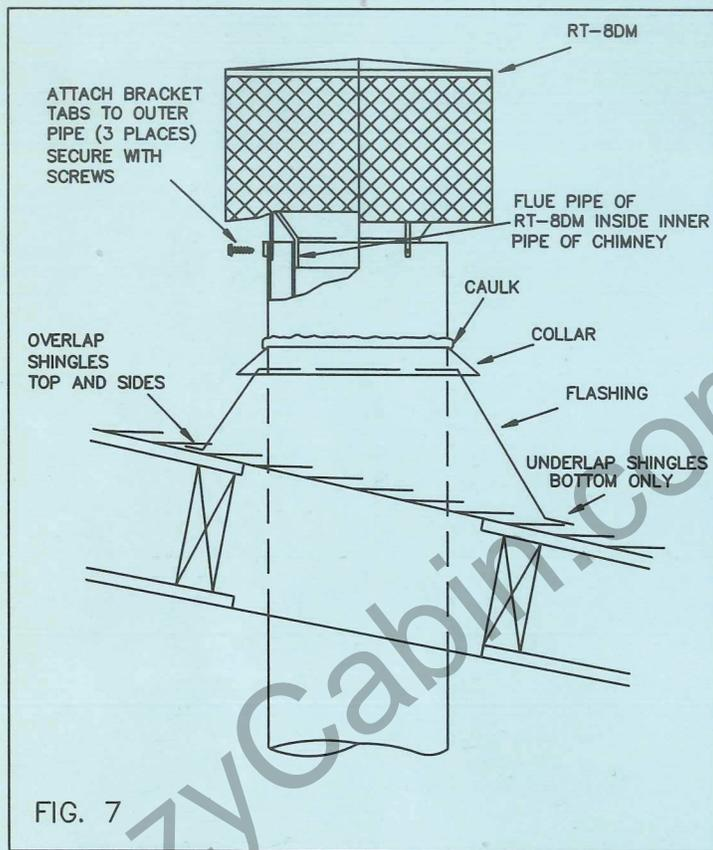

FIG. 7
STEP 2: Install the storm collar on double wall chimney, push collar down to flashing and seal. (SEE FIG. 7)